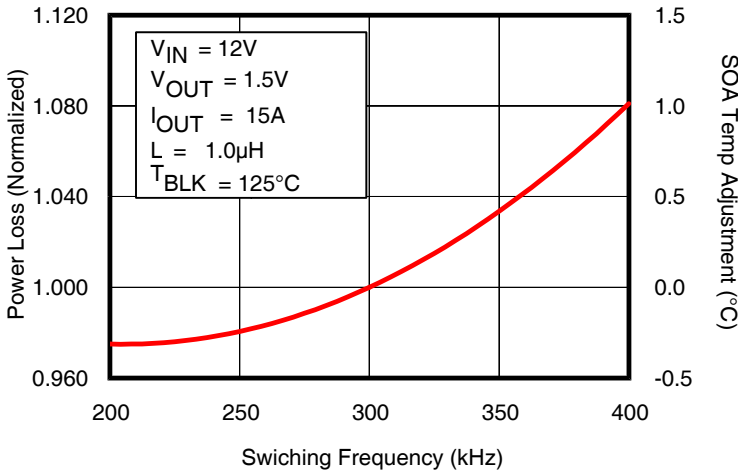

Fig. 6: Normalized Power Loss vs. Frequency
- (Fig. 6) Normalized power loss for frequency ≈ 1.08
- (Fig. 6) Normalized SOA Temperature for frequency $\approx +1.0^{\circ}\text{C}$